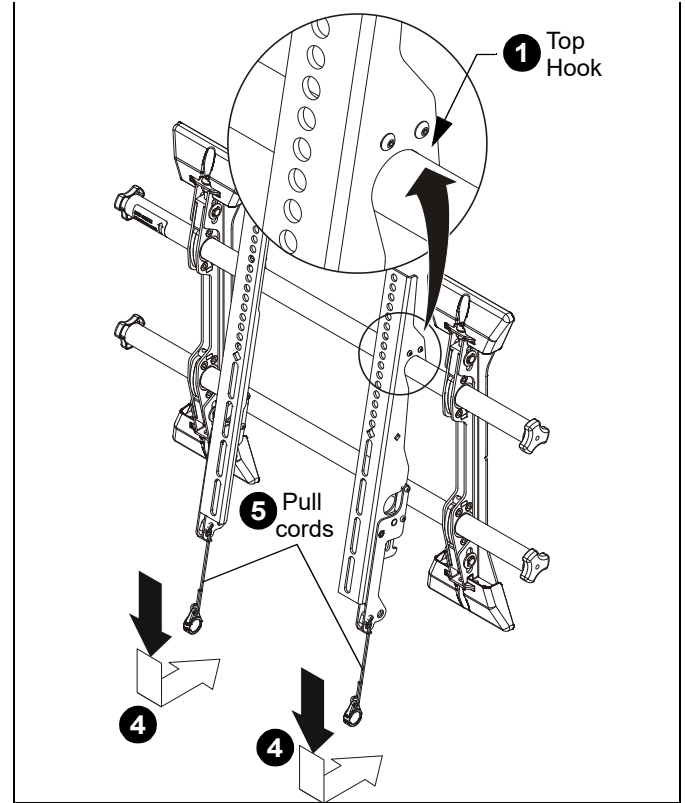

Figure 14
1. Hang screen by hanging top hook of interface brackets onto the top rail of the mount (X). (See Figure 14)
4. Pull downward on the pull cords and swing inward toward wall, latching interface brackets to lower rail and fastening bottom of screen to the mount. (See Figure 14)
5. Attach end of pull cord (a magnet) to mount so it does not extend beyond bottom of screen. (See Figure 14)